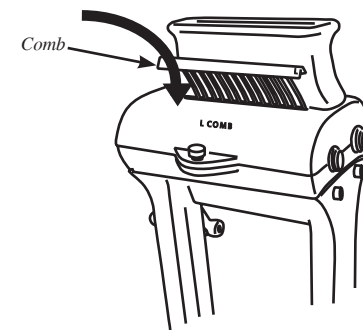

Figure 2
7. Insert the **Left Comb** and **Right Comb** into the **Top Housing**. *Figure 2*